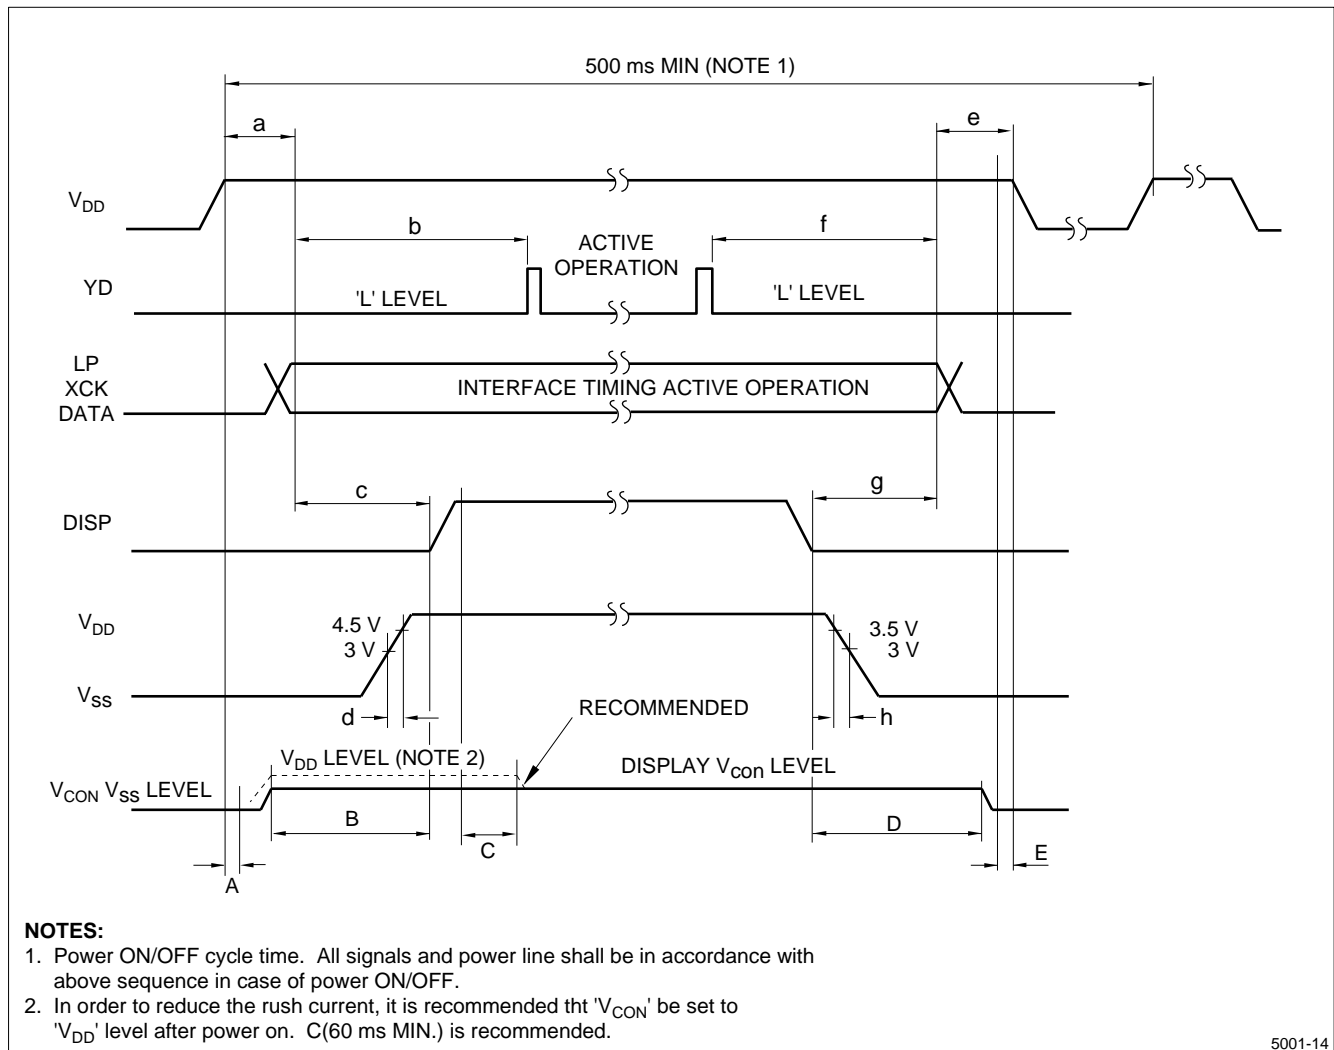

Figure 14. Supply Voltage Sequence Condition
- The unit should be driven according to the specified ratings to avoid the malfunction of permanent damage. DC voltage drive leads to rapid deterioration of LC, so ensure that the drive is an alternating waveform by continuously applying signal M. Avoid latch-up of driver LSIs and application of DC voltage to the LCD panel by following the ON/OFF sequency shown in Figure 14 and Table 1.
Refer to Figure 14 and Table 1.